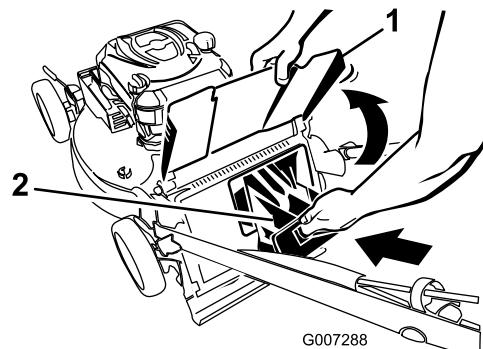

Figure 25
**Important:** Ensure that the rear discharge plug is locked in place. To lock the plug: Raise the discharge deflector (Figure 25), firmly push the plug in until it snaps into place behind the tabs, and rotate the lever on the plug to the left (Figure 24).